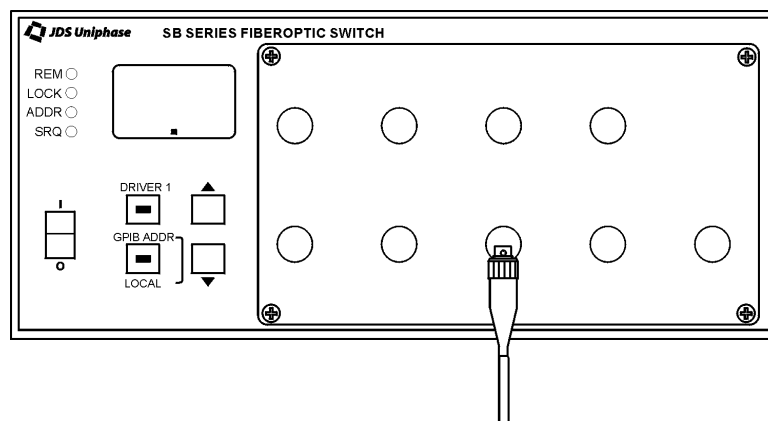

Figure 12: Using a Channel
1. Connect a channel to the front of the switch (Figure 12).